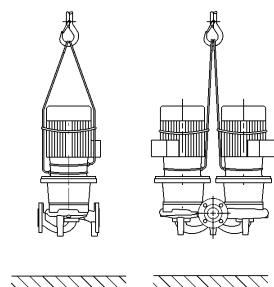

Fig. 3: Attaching the transport ropes
- The transport eyes on the motor are only for guiding while bearing the load (fig. 3).